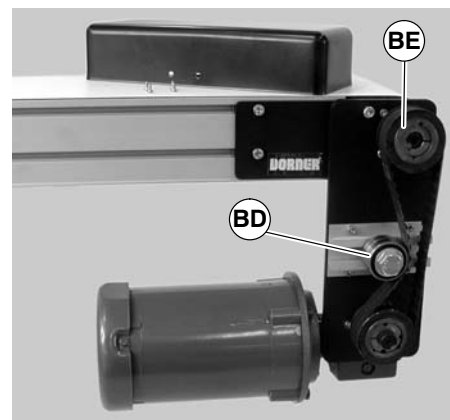
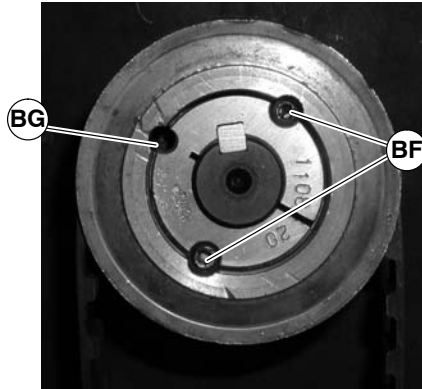

Figure 41
Figure 42
- Loosen tensioner (BD of Figure 41).
- 4) Remove taper-lock screws (BF of Figure 42) on the driven pulley (BE of Figure 41). Insert one (1) of taper lock screws (BF of Figure 42) in remaining hole (BG). Tighten screw (BF) until pulley is loose. Remove pulley, taper hub assembly and timing belt.